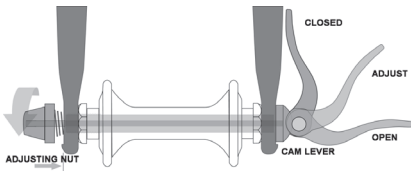
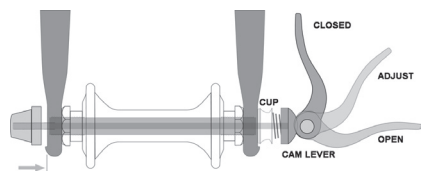
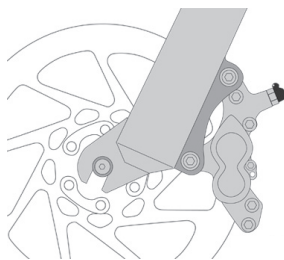
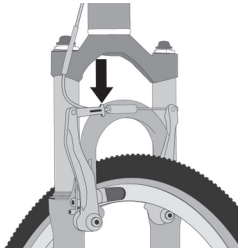

fig. 9a
fig. 9b
fig. 14
fig. 15
1. A hollow axle with a shaft ("skewer") running through it which has an adjustable tension nut on one end and an over-center cam lever on the other (cam-action system, **fig. 9a & 9b**).
There are currently two types of over-center cam wheel retention mechanisms: the traditional over-center cam (**fig. 9a**) and the cam-and-cup system (**fig. 9b**). Both use an over-center cam-action to clamp the bike's wheel in place. Your bicycle may have a cam-and-cup front wheel retention system and a traditional rear wheel cam-action system.
a. Adjusting the traditional cam-action mechanism (fig. 9a)
b. Adjusting the cam-and-cup mechanism (fig. 9b)
- (1) If your bike has rim brakes, disengage the brake's quick-release mechanism to increase the clearance between the tire and the brake pads (refer to **Page 37, Section 4: "Tech", subsection C: "Brakes", figs. 14 through 18**).
- (2) If your bike has a cam-action front wheel retention, move the cam lever from the locked or CLOSED position to the OPEN position (**figs. 9a & 9b**). If your bike has through-bolt or bolt-on front wheel retention, loosen the fastener(s) a few turns counter-clockwise using an appropriate wrench, lock key or the integral lever.
- (3) If your front fork has a clip-on type secondary retention device, disengage it. If your front fork has an integral secondary retention device, and a traditional cam-action system (**fig. 9a**) loosen the tension adjusting nut enough to allow removing the wheel from the dropouts. If your front wheel uses a cam-and-cup system, (**fig. 9b**) squeeze the cup and cam lever together while removing the wheel. No rotation of any part is necessary with the cam-and-cup system.
- (1) If your bike has a cam-action front wheel retention, move the cam lever so that it curves away from the wheel (**figs. 9a & 9b**). This is the OPEN position. If your bike has a thru-axle, through-bolt or bolt-on front wheel retention, go to the next step.
- (2) With the steering fork facing forward, insert the wheel between the fork blades so that the axle seats firmly at the top of the fork dropouts. The cam lever, if there is one, should be on rider's left side of the bicycle (**fig. 9a & 9b**). If your bike has a clip-on type secondary retention device, engage it.
- (3) If your bike has a thru-axle front wheel mounting system, insert the thru-axle through the unthreaded dropout side and through the hub body, then thread the thru-axle into the threads of the opposing dropout.
- (4) If your bike has a traditional cam-action mechanism: holding the cam lever in the ADJUST position with your right hand, tighten the tension adjusting nut with your left hand until it is finger tight against the fork dropout (**fig. 9a**). If you have a cam-and-cup system: the nut and cup (**fig. 9b**) will have snapped into the recessed area of the fork dropouts and no adjustment should be required.
- (5) While pushing the wheel firmly to the top of the slots in the fork dropouts, and at the same time centering the wheel rim in the fork:
- (a) With a cam-action system, move the cam lever upwards and swing it into the CLOSED position (**fig. 9a & 9b**). The lever should now be parallel to the fork blade and curved toward the wheel. To apply enough clamping force, you should have to wrap your fingers around the fork blade for leverage, and the lever should leave a clear imprint in the palm of your hand.
- (1) If you have a multi-speed bike with a derailleur gear system: shift the rear derailleur to high gear (the smallest, outermost rear sprocket).
- If you have a single-speed bike with rim or disk brake, go to step (4) below.
- (2) If your bike has rim brakes, disengage the brake's quick-release mechanism to increase the clearance between the wheel rim and the brake pads (refer to **Page 37, Section 4: "Tech", subsection C: "Brakes", figs. 14 through 18**).
- (3) On a derailleur gear system, pull the derailleur body back with your right hand.
- (4) If your bike has a cam-action front wheel retention, move the cam lever from the locked or CLOSED position to the OPEN position (**figs. 9a & 9b**). If your bike has through-bolt or bolt-on front wheel retention, loosen the fastener(s) a few turns counter-clockwise using an appropriate wrench, lock key or the integral lever.
- (a) With a cam-action system, move the cam lever upwards and swing it into the CLOSED position (**figs. 9a & 9b**). The lever should now be parallel to the seat stay or chain stay and curved toward the wheel. To apply enough clamping force, you should have to wrap your fingers around the fork blade for leverage, and the lever should leave a clear imprint in the palm of your hand.
Some bikes are equipped with a cam-action seat post binder. The seat post cam-action binder works exactly like the traditional wheel cam-action fastener (refer to **Page 32, Section 4: "Tech", subsection A.2: "Wheels with cam-action systems"**). While a cam-action binder looks like a long bolt with a lever on one end and a nut on the other, the binder uses an over-center cam-action to firmly clamp the seat post (see **fig. 9a**).
3. Some bicycle brakes, such as disc brakes (fig. 14) and linear-pull brakes (fig. 15), are extremely powerful. Take extra care in becoming familiar with these brakes and exercise particular care when using them.
Most rim brakes have some form of quick-release mechanism to allow the brake pads to clear the tire when a wheel is removed or reinstalled. When the brake quick-release is in the open position, the brakes are inoperative. Ask your authorized retailer to make sure that you understand the way the brake quick-release works on your bike (see **figs. 15, 16, 17 & 18**) and check each time to make sure both brakes work correctly before you get on the bike.